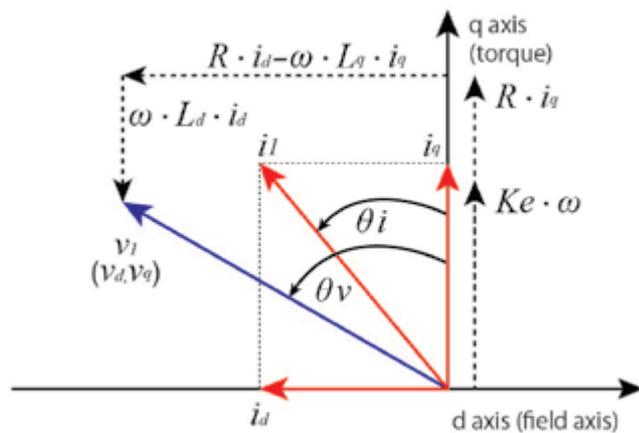

Figure 4: PMSM Vector Diagram
When a steady state is considered, a vector diagram of the *d*- and *q*-axis is expressed as shown in Figure 4. Here, *v*₁ and *i*₁ represent the fundamental wave components of the phase voltage and phase current, while *θ*_v and *θ*_i represent the fundamental wave phase angle of the phase voltage and phase current respectively. From here the control parameters equation (1)-(4) can be derived by user defined function (UDF) with a power analyzer as equation (5)-(8).
Here, Figure 4 and equations (1)-(8) are expressed based on the following assumptions [2].
Using equations (1)-(8) and Figure 4, motor parameters *Ld* and *Lq* can be derived and determined by UDF in a power analyzer as follows: